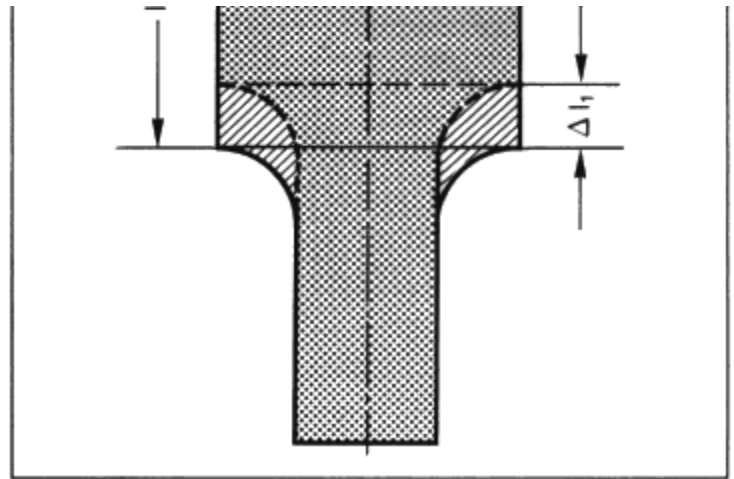

Figure 52: Reduction of the resonant frequency of a stepped sonotrode (stepped cylinder) by shortening length  $l_1$
- ☐ Stepped shape (figure 52) – shortening of length  $l_1$ .